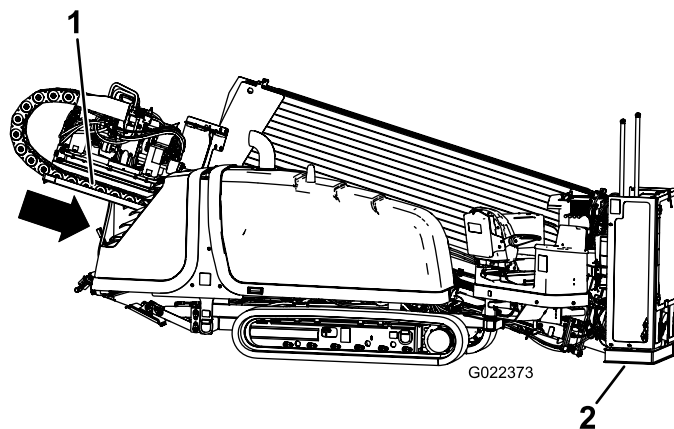

Figure 78
9. Lower the thrust frame, tilting the drill frame until the plate contacts the ground (Figure 78).